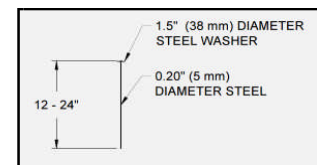

Figure 15: Securing Pin
4. Secure Pyramat with pins and PDEAs in the IC trench (Figure 14). Pins should be made of steel with a 0.20 in (5 mm) minimum diameter, having a 1.5 in (38mm) diameter washer at the head, and a length between 12 and 24 in (300-600 mm) with sufficient ground penetration to resist pullout (Figure 15). Longer pins may be required for looser soils. Heavier metal stakes may be required in rocky soils. Suggested placement of pins and PDEAs for the IC trench is along the bottom of the trench with pins on 12 in (300 mm) centers in between PDEAs on 4 ft (1.2 m) centers. PDEAs should also be installed on panel edge overlaps in the IC trench.